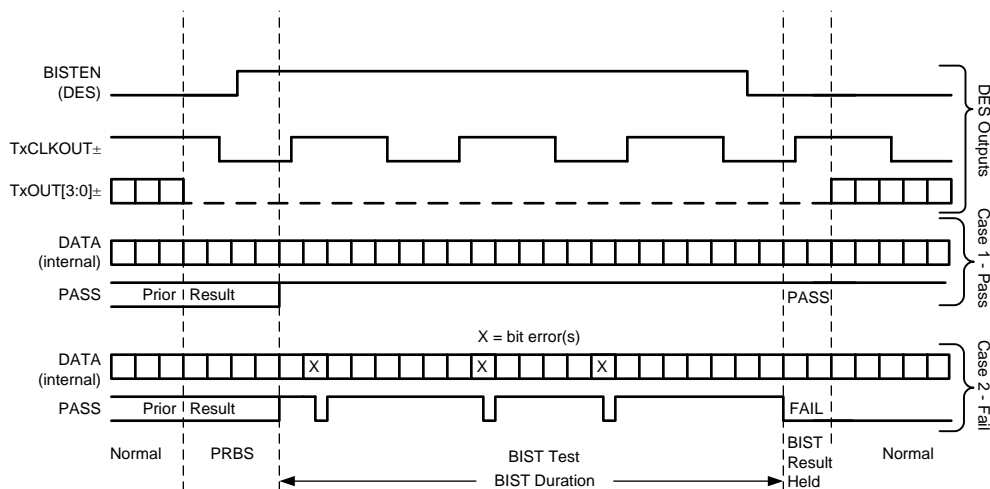

Figure 29. BIST Waveforms, in Conjunction With Deserializer Signals
Step 4: The link returns to normal operation after the deserializer BISTEN pin is low. Figure 29 shows the waveform diagram of a typical BIST test for two cases. Case 1 is error free, and Case 2 shows one with multiple errors. In most cases it is difficult to generate errors due to the robustness of the link (differential data transmission etc.), thus they may be introduced by greatly extending the cable length, faulting the interconnect medium, or reducing signal condition enhancements (Rx Equalization).